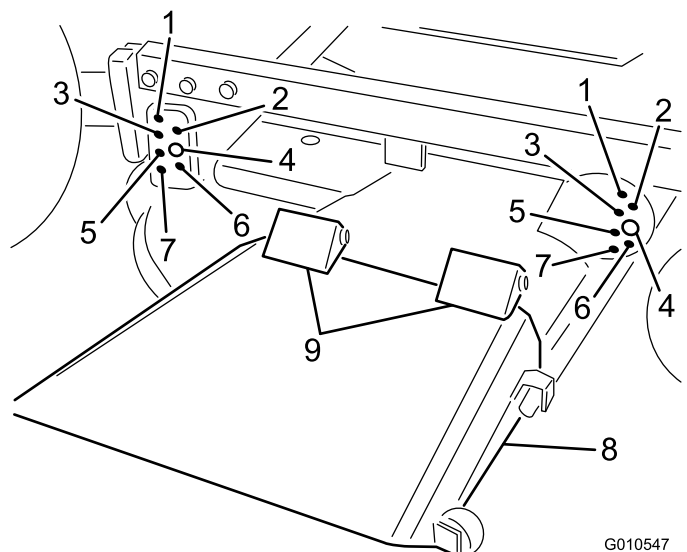

Figure 9
- Lower the carrier frame and install 4 clevis pins through the desired height-of-cut bracket holes and frame brackets. Secure all 4 pins with hairpin cotters (Figure 9).